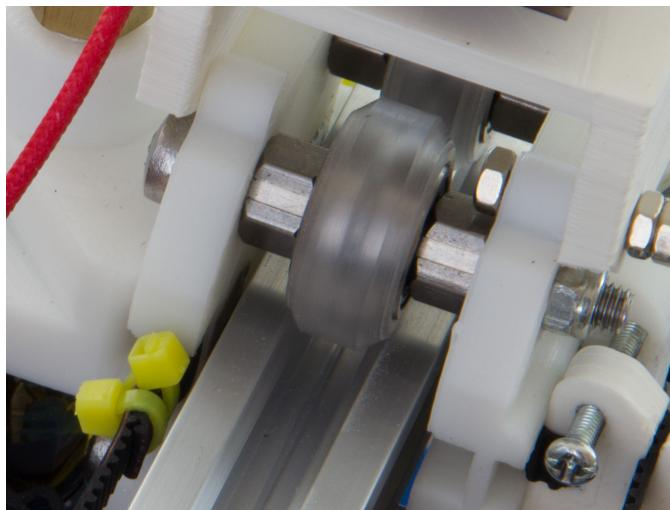

Figure 18: Adjusted v-wheels with notch the same on front and back of each wheel
5. Use the notches on the eccentric spacers and make sure the front spacers line up with the back spacers for the v-slot wheel on the x-carriage. This will ensure the front and back are sitting correctly. See Figure 18.